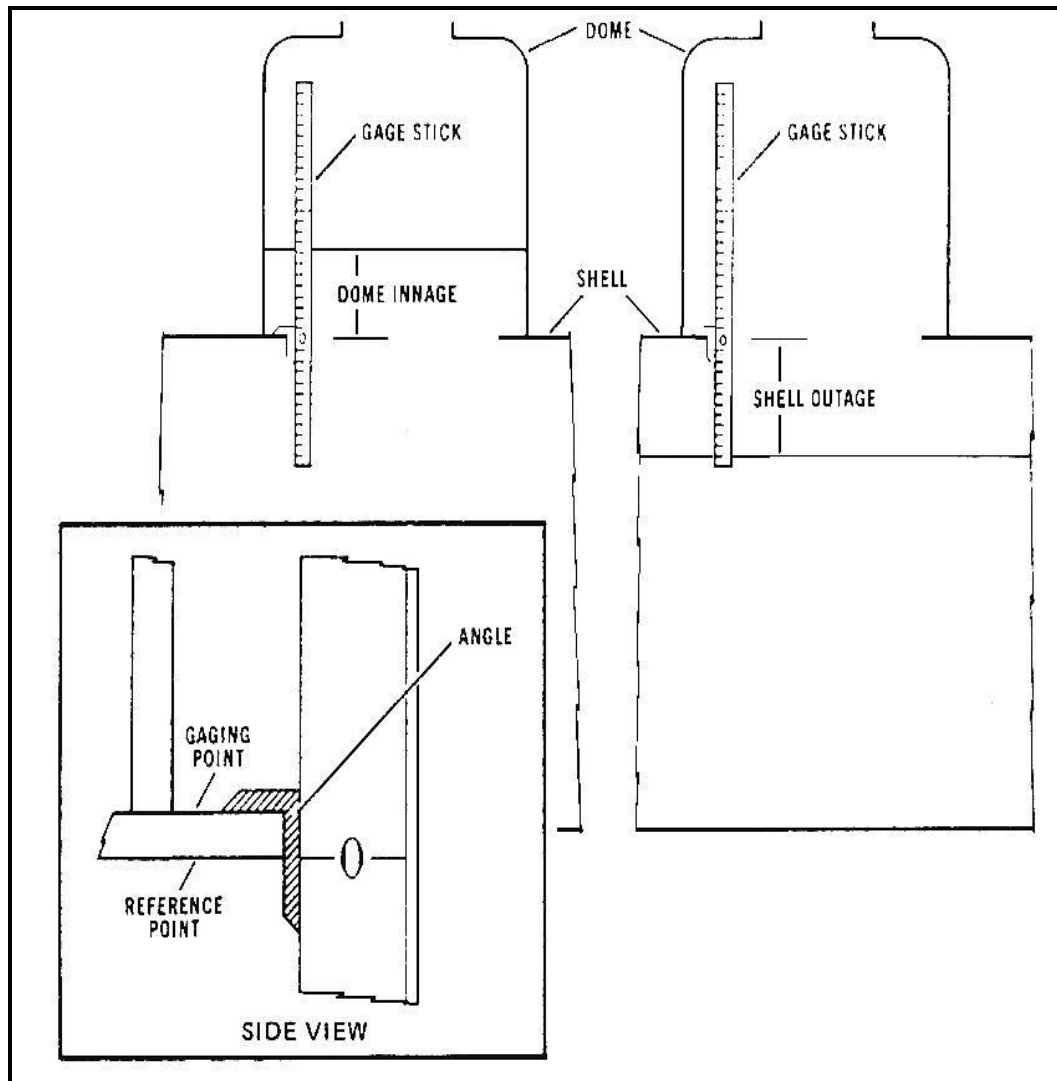

Figure 3-13. Using the tank car gage stick to determine dome innage and shell outage
- **Taking the gage.** Insert the gage stick, with the short end down, through the dome hatch into the tank car so that the angle rests on the tank shell at the gaging point (Figure 3-13, page 3-11). The gaging point should be the highest point of the tank car shell on a line with the lengthwise center of the car. Find where the shell plates overlap along the centerline of the tank. Select a gaging point on the interior of the tank. If the product level is in the dome and the gaging stick is not visible, it may be necessary to probe with the end of the stick to find it. Make sure the angle does not rest on a rivet head and that the stick is vertical.